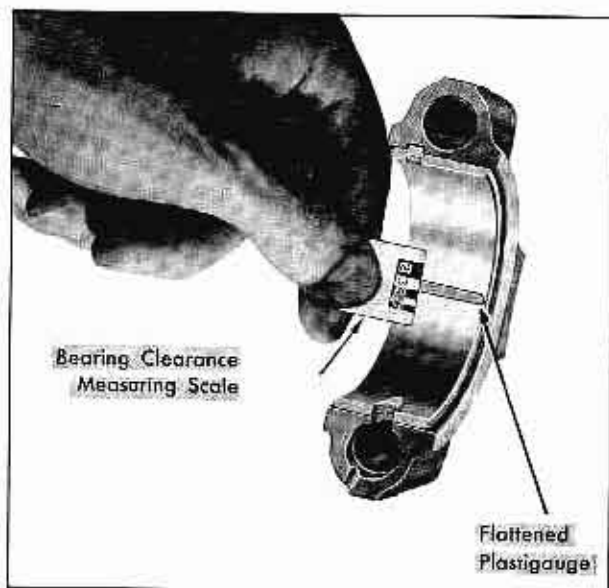

Fig. 10-17 Checking Bearing Clearance
4. Remove bearing cap and determine bearing clearance by comparing the width of the flattened Plastigauge, at its widest point, with the graduation on the Plastigauge container. The number within the graduation on the envelope indicates the clearance in thousandths of an inch, Fig. 10-17. If this